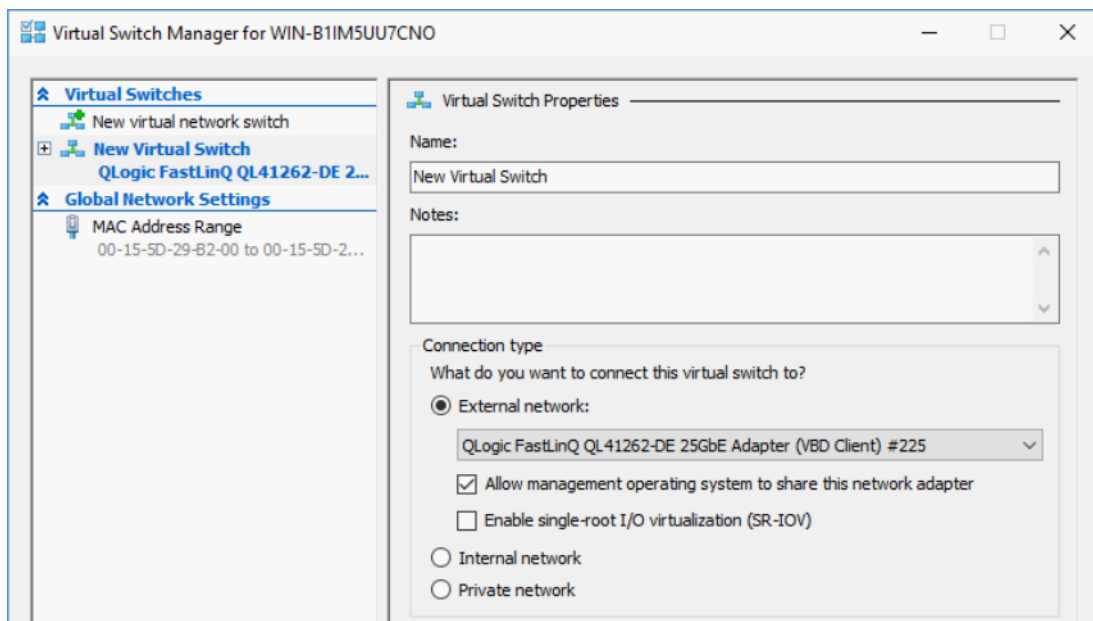

Figure 13-1. Enabling RDMA in Host Virtual NIC
2. Click **Virtual Switch Manager** (see Figure 13-1).